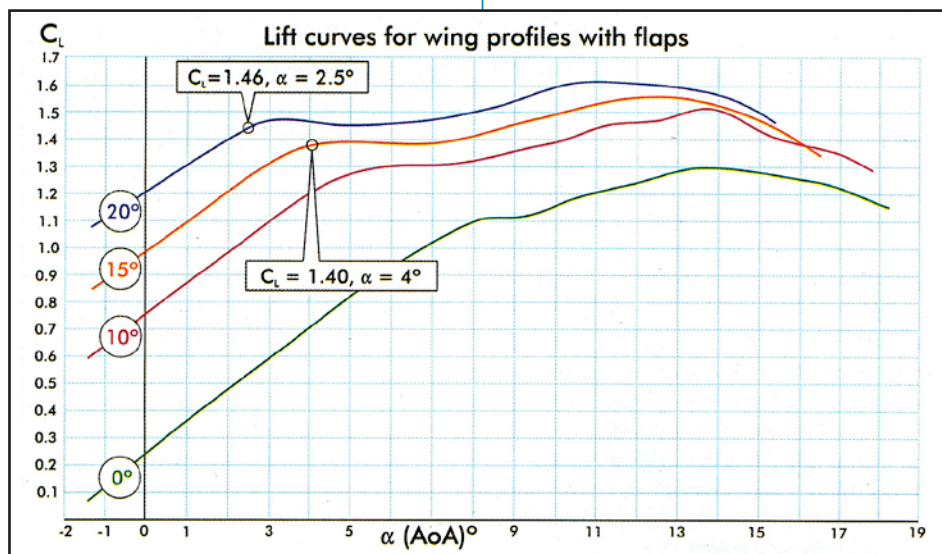

Figure 1: Measured C_L - α curves (typical for any modern glider)
The net effect of this is that the mean lift coefficient remains about constant over quite some interval of α , especially for the larger flap settings, as shown in figure 1.
Now consider the case of a pilot on finals to the airfield close to touching down. No water in the sailplane (mass=450 kg) and $FL=20^\circ$, ie in the landing position. Assume an approach speed $V = 76$ km/h. Then from formula (2) it follows that $C_L = 1.46$. The $FL=20^\circ$ curve of figure 1 indicates that for this value of C_L , $\alpha = 2.5^\circ$ which is just in front of the step as indicated.
In turbulent air, serious changes in C_L occur because of vertical movements of air hitting the wing surface. When gliding straight on at small values of α close to 0° , which is usually the case, one can see from the C_L - α graphs of figure 1, that upgusts will increase C_L and downgusts will decrease C_L in the same manner.
However, now consider a sailplane flying nose up with $\alpha = 4.0^\circ$ and $FL=15^\circ$, where $C_L=1.40$ as indicated in figure 1. So right at the beginning of the step up gusts have no effect on C_L , since an increase of some degrees in α falls right into the step where C_L is constant.
Then positive and negative gusts cancel out as is shown by the V_{s_gusts} curve. However, for speeds less than 120km/h, positive gusts raise α to into the flat part of the $C-\alpha$ curve of figure 1 and give a reduced contribution and at 99 km/h no contribution at all to the lift of the wing.